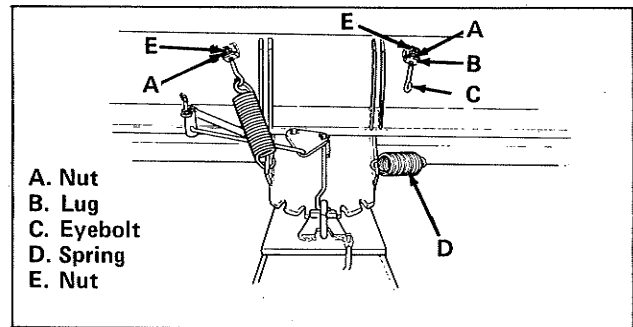

Figure 2. Install Springs
4. Tilt push bar backwards to ground so blade is vertical as shown in figure 2.
5. Insert eyebolt (item C, figure 2) through lug (item B) and install nut (item A) so its outer face is flush with end of eyebolt.